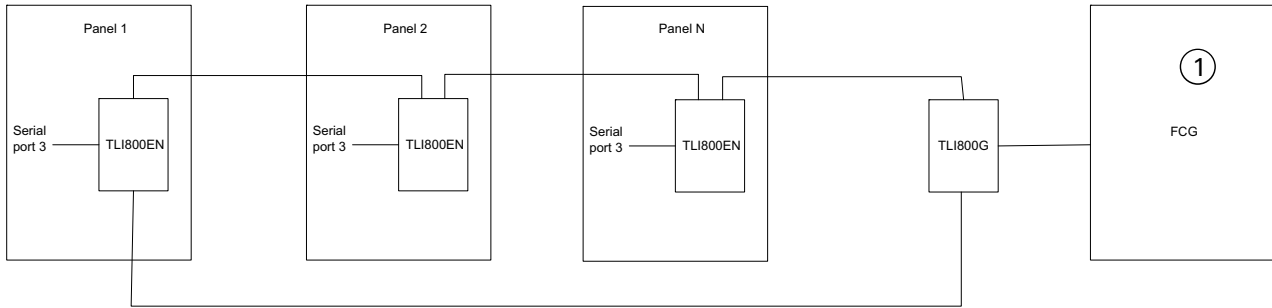

Fig. 1: Typical Network Configuration
- A typical Network Configuration is as shown in Figure 1.